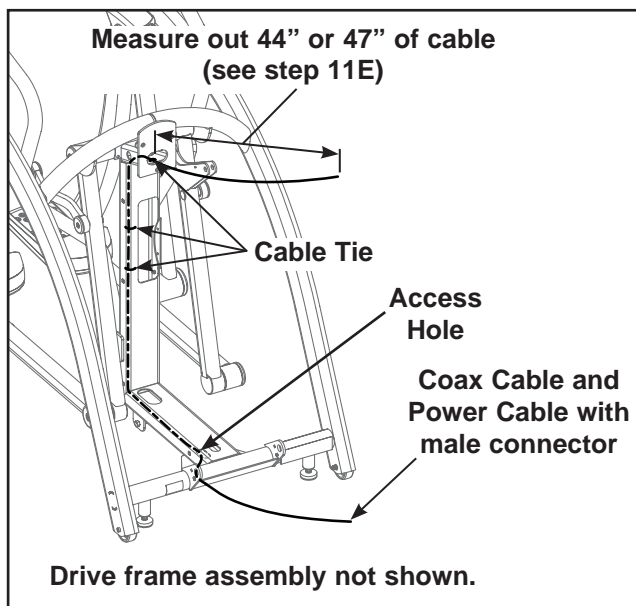

Figure 9
- A. Using a side cutter, cut the three cable ties. See Figure 9.
- B. Locate the coax and power cable (B).
- D. Route the cable inside top of frame as shown in Figure 9.
- F. Pull the extra coax and power cables out of the bottom of the main frame. See Figure 9.
- G. Attach three cable ties (F) replacing the ones removed in step 11A. See Figure 9.
- A. Pull the loose coax and power cables through the access hole. See Figure 9.
- B. Tighten the three cable ties securely. See Figure 9.